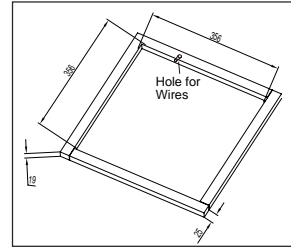

Figure 1
- 3.Examine the roof opening size, if the opening is small than 356x356mm, the opening must be enlarged. If the opening exceeds 356x356mm, a mounting plate (frame) must be fabricated to reduce the opening size (See Figure 1).
If a roof vent opening is not used,a new opening(see figure 1)will be cut into the vehicl roof.A matching opening will also have to be cut into the interior vehicle ceiling,be careful when cutting the ceiling opening because if the ceiling opening is carpeted,snagging could occur. After the opening in the roof and interior ceiling are the correct size,a framed support structure must be placed between the exterior roof top and interior ceiling.The reinforced framed structure must follow the follwing guidelines:
conditioner and ceiling assembly are bolted together,no collapsing occurs. A typical support frame is shown in Figure 1.